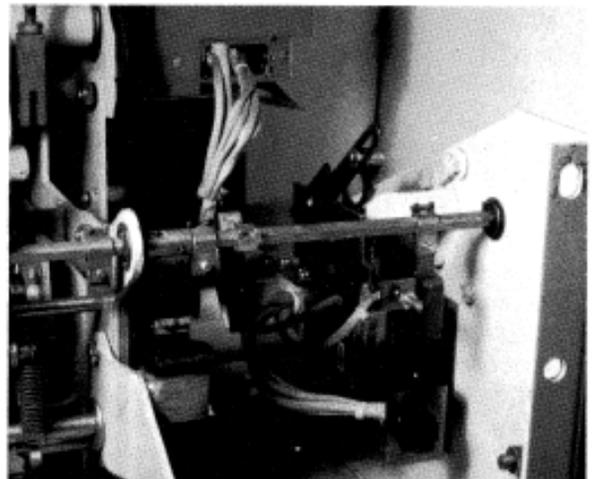

Figure 3-10. Flux Shifter Installed
2. Install the new flux shifter, position the insulator and programmer connector bracket as shown in Fig. 3-10.
Install the new flux shifter, positioning the insulator and programmer connector bracket as shown in Fig. 3-10.
Install the new flux shifter device, positioning the insulator and programmer connector bracket as shown in Fig. 3-10.
The 15-pin connector is inserted into the programmer connector bracket which is part of the flux shifter assembly. See Fig. 3-10. Insert the connector so that the Number 1 pin is toward the breakers' top, right-hand side.
Install the programmer harness as shown in Fig. 3-10. Include the flux shifter leads with this harness. Join the 4-pin connector on the programmer harness to the 4-pin connector on the flux shifter.